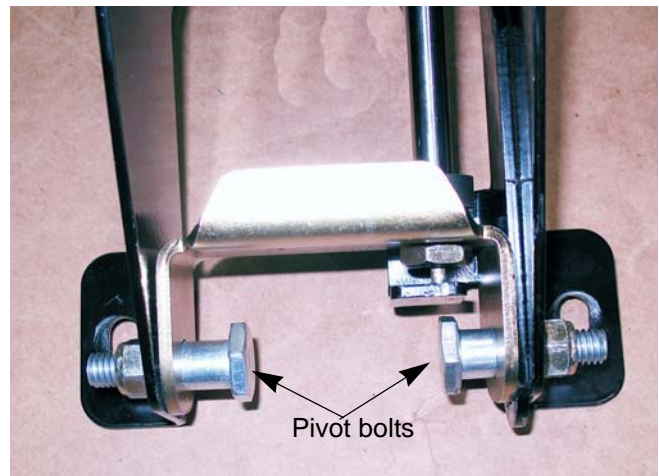

Figure 6.100
11. Remove the steering column dampener pivot bolts using a 9/16" wrench and a 3/4" wrench. See Figure 6.100.